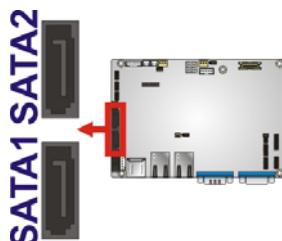

Figure 3-16: SATA Drive Connector Location
**CN Label:** SATA1, SATA2**CN Type:** 8-pin SATA drive connectors**CN Location:** See Figure 3-16**CN Pinouts:** See Table 3-17